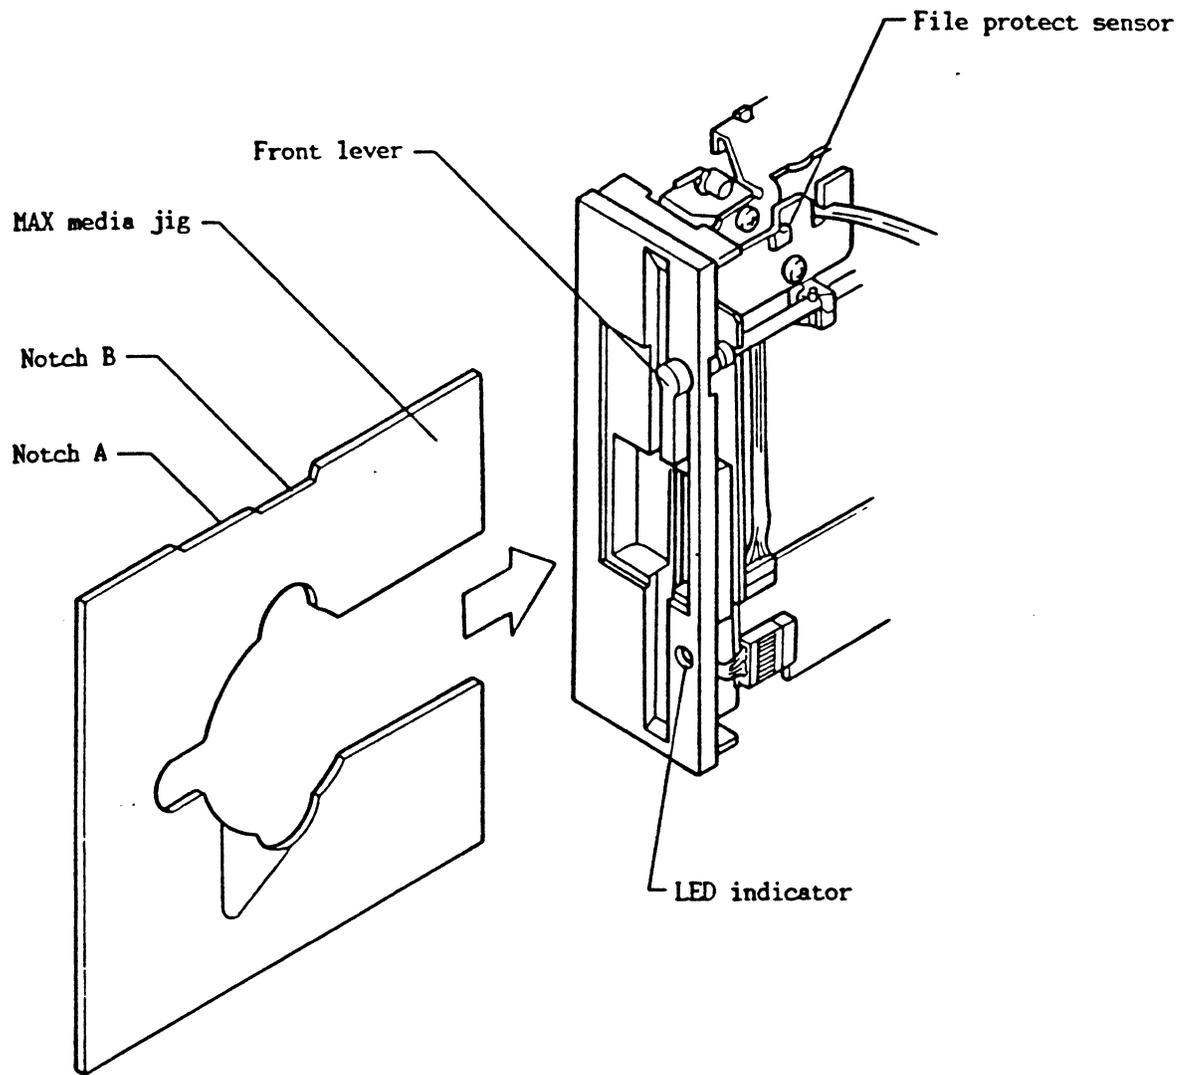

Fig. 412 File Protect Sensor Inspection
- (1) Place the Floppy Disk Drive so that the LED indicator is down and the front lever is up.
- (2) Connect the digital voltmeter or oscilloscope (DC range, 1V/div) to the write protect interface signal line.
- (3) Mount the MAX media jig in the position shown in Fig.412 so that the notch A is above the light path of the write protect sensor (refer to Fig.412).
- (4) Move the Floppy Disk Drive so that strong external light does not strike the file protect sensor.
- (5) Make sure the write protect interface signal line voltage is within the range shown below when the Floppy Disk Drive power is turned on.